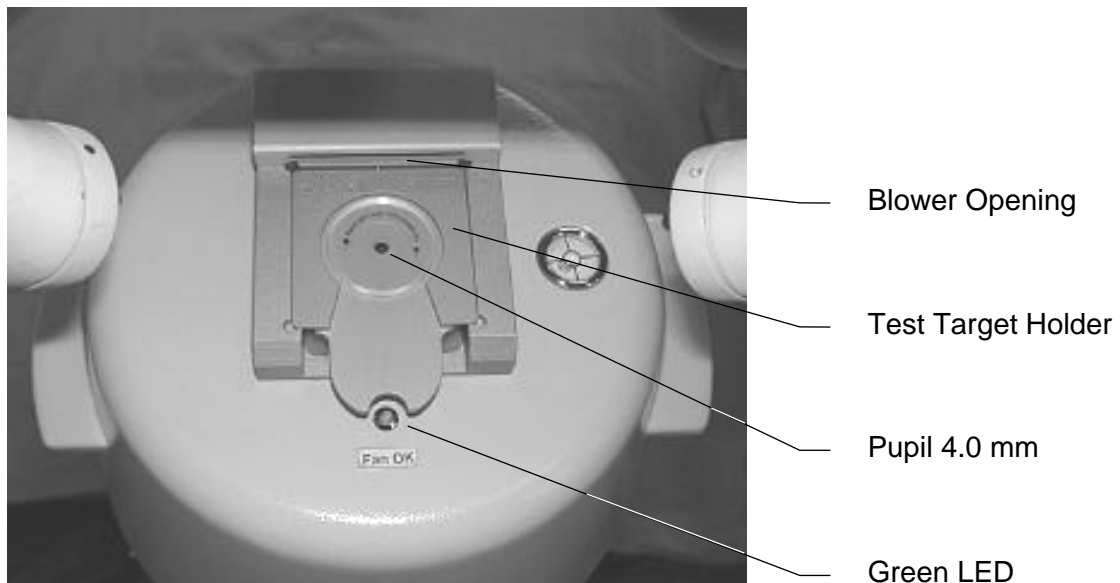

Figure 132: Test Adapter With Test Target Holder And Test Disk
- Make sure that the position of the Test Adapter is correct, see figure 132 “Test Adapter With Test Target Holder And Test Disk” on page 169.
14. Do not change the focus. Center the 4 mm pupil (see figure 132 “Test Adapter With Test Target Holder And Test Disk” on page 169) by moving the patient bed. Adjust the eyetracker setting accordingly.